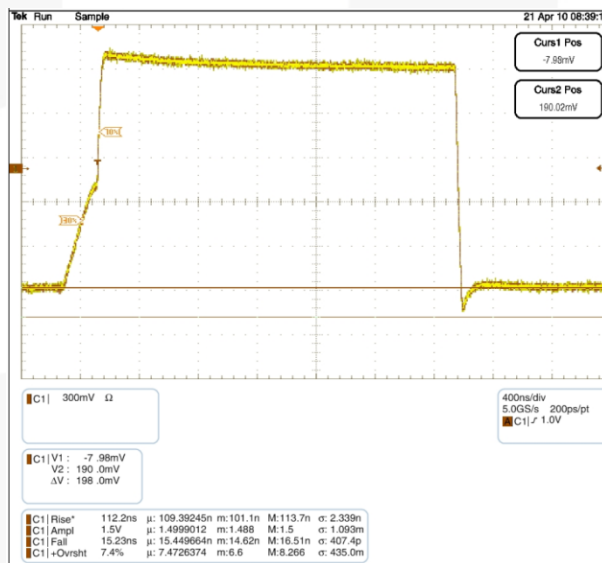

Figure 5. Waveform C: 600 pF, Total R_{PU} : 2.2 K Ω
Due to I²C's open-drain topology, I²C masters and slaves are not push/pull drivers. Logic LOWs are "pulled down" (I_{sink}), while logic HIGHs are "let go" (3-state). For example, when the master lets go of SCL (SCL always comes from the master), the rise time of SCL is largely determined by the RC time constant, where $R = R_{PU}$ and $C =$ the bus capacitance. If the FXMAR2102 is attached to the master [on the A port] and there is a slave on the B port, the Npassgates act as a low-resistive short between both ports until either of the port's $V_{CC}/2$ thresholds are reached. After the RC time constant has reached the $V_{CC}/2$ threshold of either port, the port's edge detector triggers both dynamic drivers to drive their respective ports in the LOW-to-HIGH (LH) direction, accelerating the rising edge. The resulting rise time resembles the scope shot in Figure 5. Effectively, two distinct slew rates appear in rise time. The first slew rate (slower) is the RC time constant of the bus. The second slew rate (much faster) is the dynamic driver accelerating the edge.